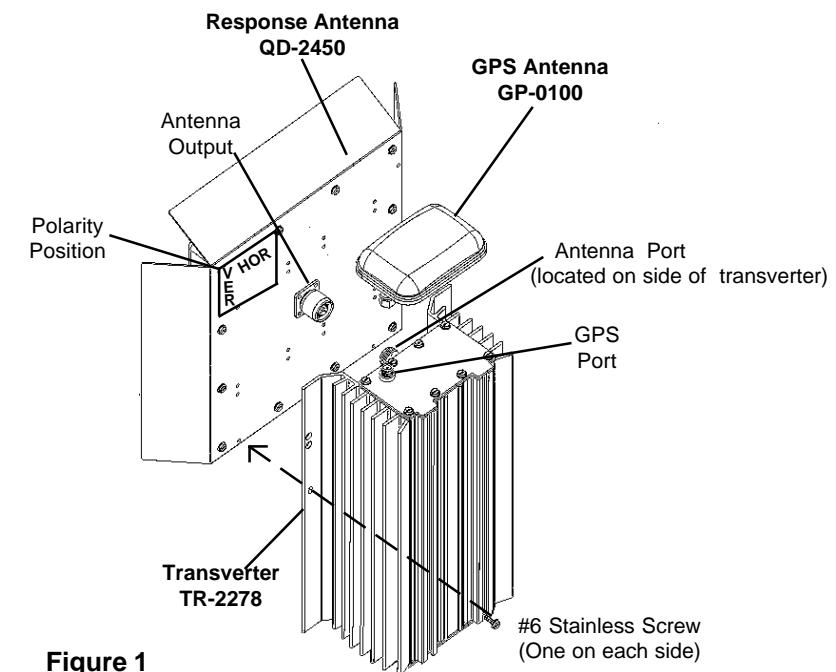

Figure 1
1. Determine the polarity of the antenna. (See Figure 1.)
2. Connect the QD-2450 antenna output to the antenna port on the side of the Transverter. (See Figure 1.)
3. Secure the transverter and antenna connection with a #6 stainless screw on each side of the Transverter. (See Figure 1.)
4. Connect the GPS Antenna to the GPS port on the Transverter. (See Figure 1.)